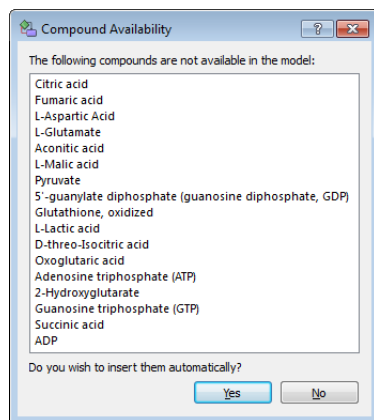

Figure 112 Compound Availability dialog box
- b Review the list of metabolites in the Profinder Archive file that are not matched to a compound in the open document in the **Compound Availability** dialog box. In this case all of the target compounds in the PFA file are not available in the network diagram (Figure 112).